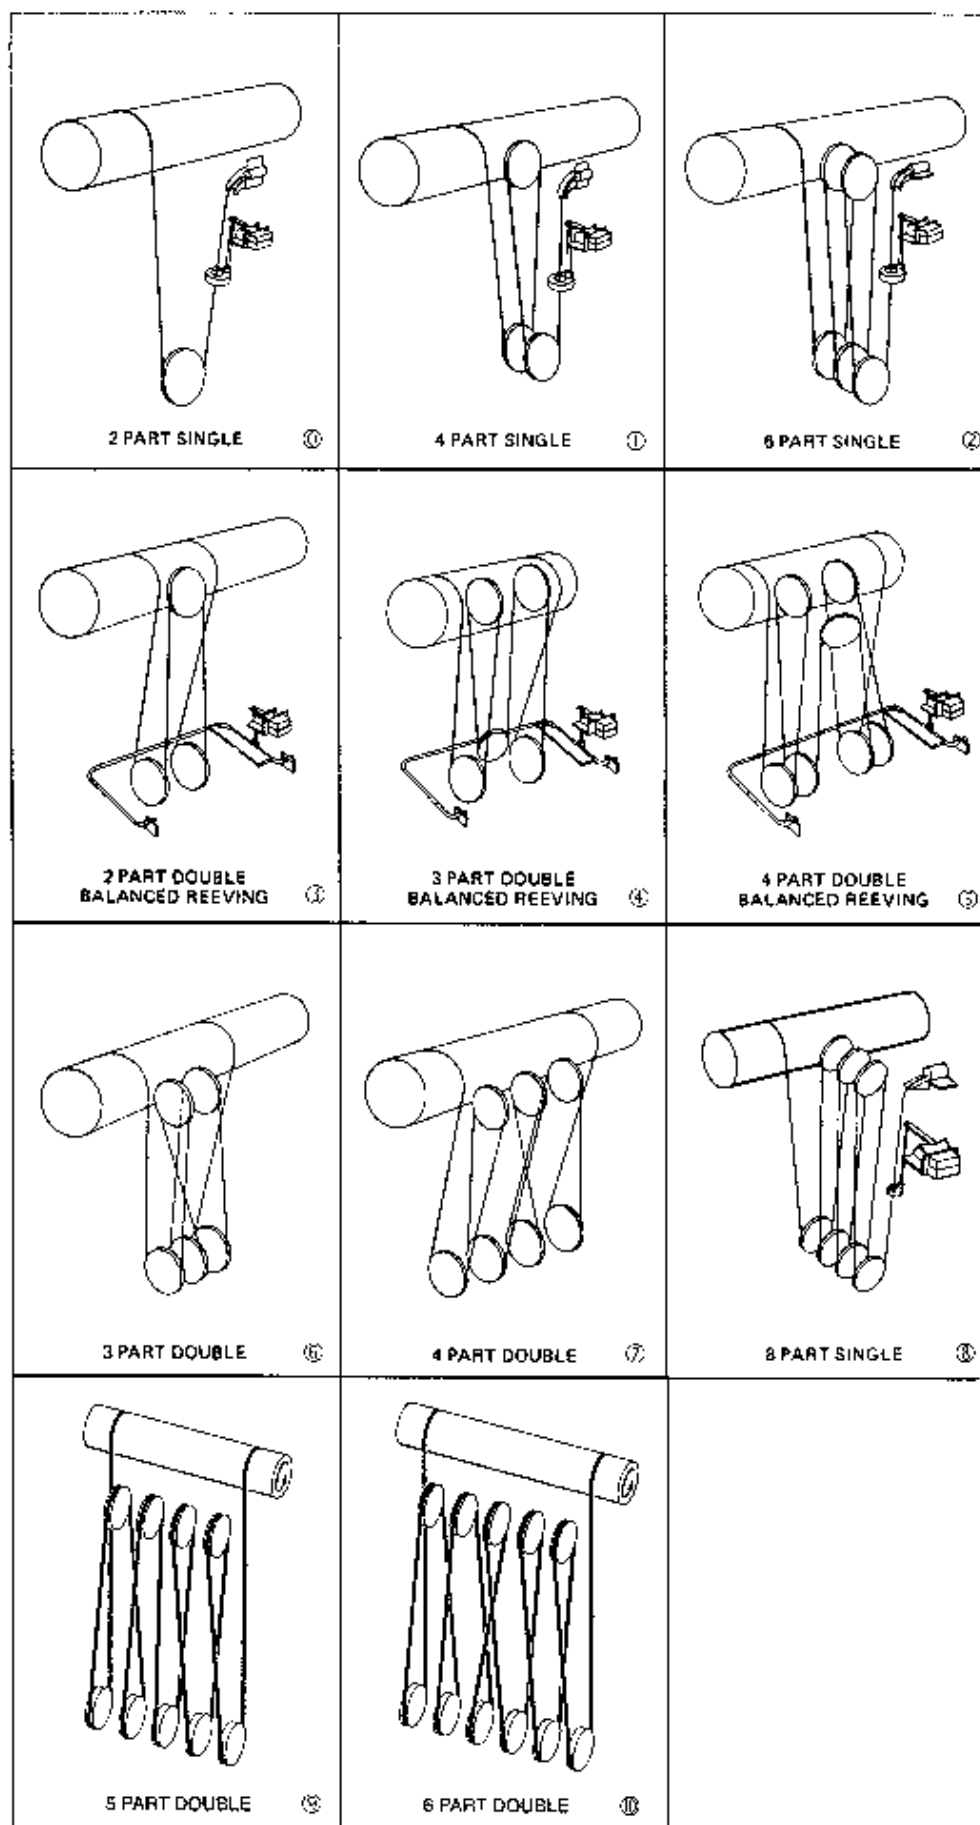

Figure 5-8. Reeving Diagrams
Before removing the old rope, refer to reeving diagrams, Figure 5-8. Face the rope drum on your hoist from the side which the rope comes off drum. To assist with rereveing your hoist, select the reeving diagram for your hoist. Note the description (such as 3 part double reeved, Figure 5-8, ④) and refer to paragraph below with the same description which describes rereveing procedure.
- (1) Lower the bottom block to a scaffold located 6 to 7 feet below hoist to relieve tension on wire rope. (Bottom block may be lowered to floor if desired; however, to handle less weight and for ease of rereveing adequate scaffold below the hoist is recommended.)
- (2) Remove bottom block sheave guard.
- (3) Remove key plates from both sides of sheave pin and slide sheave pin from bottom block.
- (4) Lift out sheaves from the top of the bottom block and remove wire rope.
- (5) Remove key plates or snap rings from upper block sheave(s) and slide out upper block sheave pins, releasing upper block sheaves. Remove wire rope from sheaves.
- (6) Make certain all personnel are clear of hoist and operate hoist "DOWN" to completely unwind all wire rope from drum. Stop hoist so drum anchor slot(s) is accessible. Remove live rope end socket(s) from drum.
- (7) TURN OFF POWER TO HOIST.
- (8) Open electrical compartment cover on single reeved hoists to remove dead end socket.
See Figure 5-8, ⓐ for diagram.
- (1) Thread the remaining cable end through limit switch weight, then pass it over partial sheave, inside hoist, and insert in anchor fitting at hoist frame. Be certain power is off before opening electrical compartment cover for access to anchor fitting. Properly seat rope end fitting in socket and replace cotter pin in end of socket.
- (2) Grasp loop, formed after installing end anchor, and place bottom block sheave in loop. Lower sheave into bottom block and insert sheave pin. Replace key plates and bolts holding sheave pin in place.
- (3) Replace sheave guard. Make certain rope is not twisted. Should the two parts of rope tend to wind around each other, remove cable from anchor slot and untwist cable. Reattach the cable anchor.
- (4) Lubricate cable per Paragraph 4-3.
See Figure 5-8, ① for diagram.
See Figure 5-8, ② for diagram.
- (1) Grasp cable at a point one-third (approx. 14'0") the distance hanging below the rope drum and form a loop. Place one upper sheave in this loop. Slide upper sheave with cable into sheave pocket; partially insert sheave pin to hold sheave in place.
- (2) Repeat (1) above and install second upper sheave with rope. Insert sheave pin and install key plates and bolts to secure sheave pin.
- (3) Thread rope end socket through limit switch weight; then, pass it over partial sheave, inside hoist, and insert in anchor fitting at hoist frame. Be certain power is off before opening electrical compartment cover for access to anchor fitting. With end fitting properly seated in anchor, replace cotter pin in end of socket. Three loops have now been formed for bottom block sheaves.
- (4) Place sheave in each loop. Install one sheave with cable in bottom block; partially insert sheave pin to hold sheave in place. Note: Be certain to install spacer washers between sheaves, when shown on parts illustration.
- (5) Repeat step 4 for remaining bottom block sheaves. Install sheave pin through sheaves. Replace key plates and bolts securing sheave pin.
- (6) Replace sheave guard.
- (7) Lubricate cable per Paragraph 4-3.
See Figure 5-8, ③ for diagram.
- (1) Form loops in the two ropes coming from rope drum. Place these loops into bottom block pockets and slide pipe or rod through sheave pin holes. Note position of ropes passing limit stop bar.
- (2) Partially insert upper block sheave pin in opening and install one spacer washer. Raise remaining rope up to hoist, form a loop and place upper sheave in this loop.
- (3) Place sheave with rope into upper sheave pocket and slide pin partially thru sheave. Install remaining washer and push pin thru side plates. Install snap ring on each end of pin to secure pin in place.
- (4) Insert lower sheave pin into bottom block removing pipe as sheave pin is inserted. Be certain washers are replaced as shown on parts illustration. With sheave pin installed, replace key plates and bolts to secure sheave pin.
- (5) Replace sheave guard.
- (6) Lubricate rope per Paragraph 4-3.